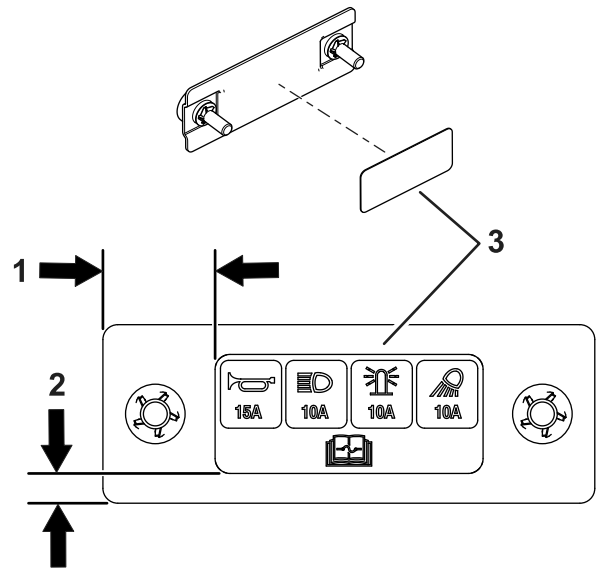

Figure 11
- Apply the decal to the fuse cover as shown in Figure 11.